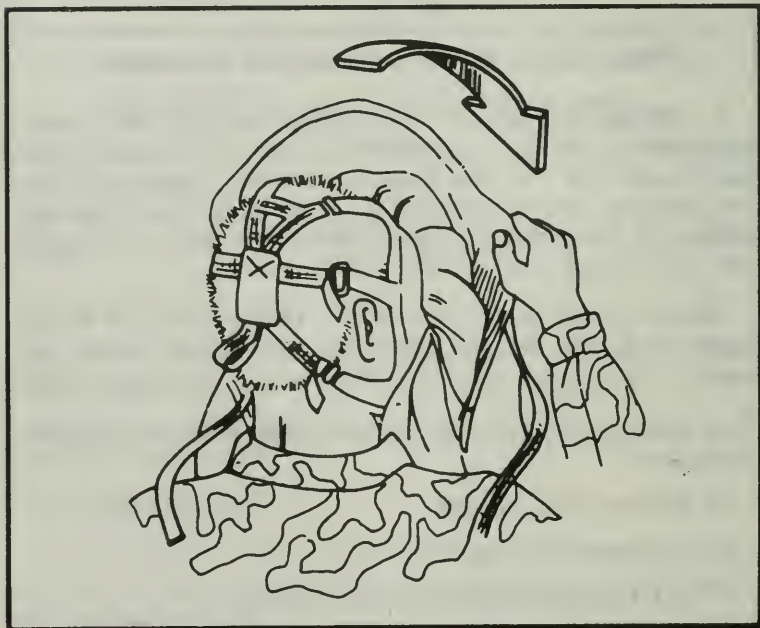

Figure 315. Pulling hood over front of facepiece.
(1) Unfasten the underarm straps.
(2) Loosen the neck cord.
(3) Unzip the zipper by holding the lower part of the zipper and pulling the slider upward.
(4) Place both hands on the back edge of the hood skirt and raise the hood above your head and pull it over the front of the facepiece (Figure 315).